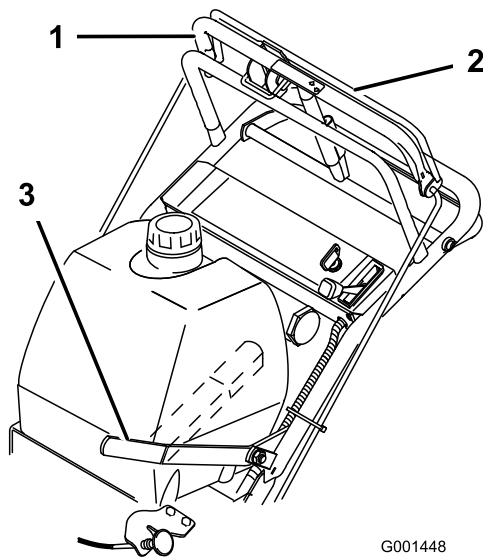

Figure 8
1. To engage the blades, squeeze the blade-control bail against the upper control bar (Figure 8).
To disengage the blades, pull the blade-control lever (PTO) rearward all the way (Figure 8). The engine shuts off when you release the blade-control bail with the blade-control lever engaged.